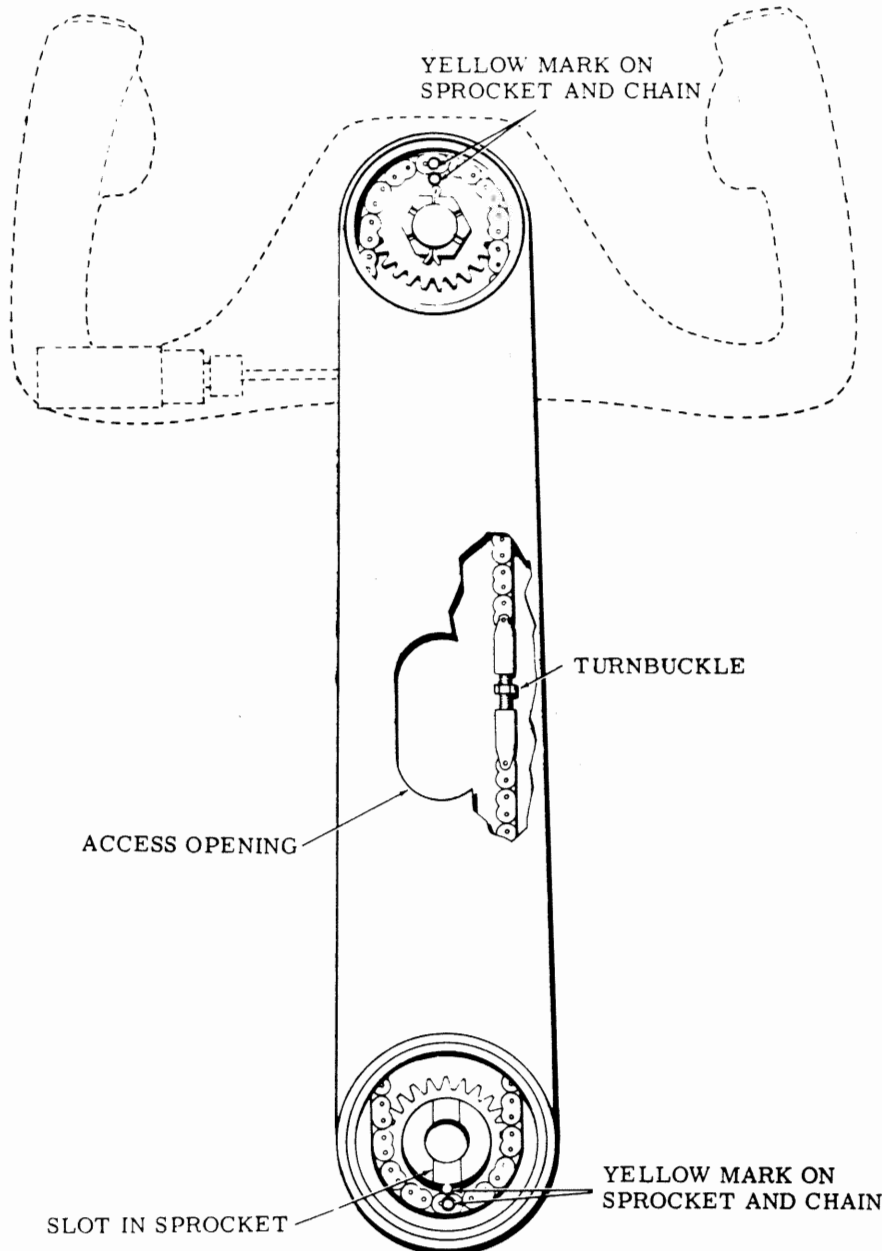

Figure 3-1. Control Column
(Figure 3-1)
- The slot in the sprocket as shown in Figure 3-1 must be in alignment with the yellow marks.